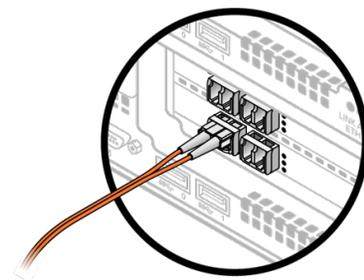

Figure 6-7. Connecting the Cable
1. Insert the optical cable connector into the transceiver so that the latch engages. See Figure 6-7.